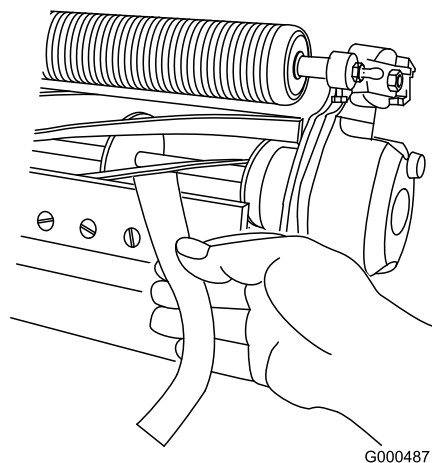

Figure 17
3. Test the cutting performance by inserting a long strip of cutting performance paper (Toro part number 125-5610) between reel and bedknife, perpendicular to the bedknife (Figure 17). **Slowly** rotate the reel forward; it should cut the paper.